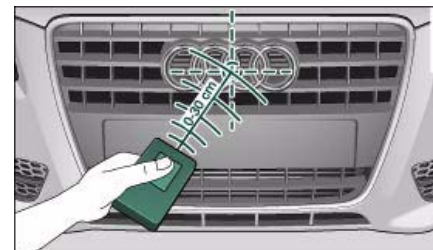

Fig. 172 Radiator grille ►
6. Hold the **original hand-held transmitter** at or near the centre of your car's radiator grille ⇒ *page 154*, fig. 172.
- Hold the **original hand-held transmitter** for the garage door opener or other device directly in front of the radiator grille of your vehicle (at or near the centre) ⇒ *page 154*, fig. 172. The exact distance depends on the system that you want to program.